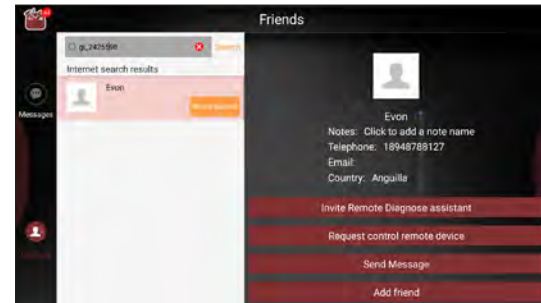
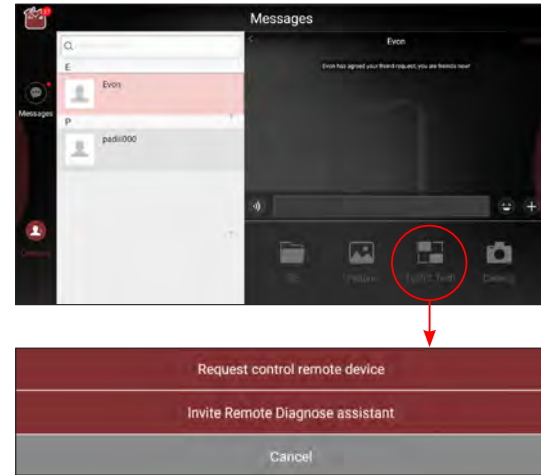

Fig. 6-6
Fig. 6-11
- If you do not add the partner as your friend, tap “Send Message” in Fig. 6-6 to enter a screen similar to the following:
- In case you do not add the partner as your friend, directly tap “Remote Diagnose” in Fig. 6-6 to enter Fig. 6-11.